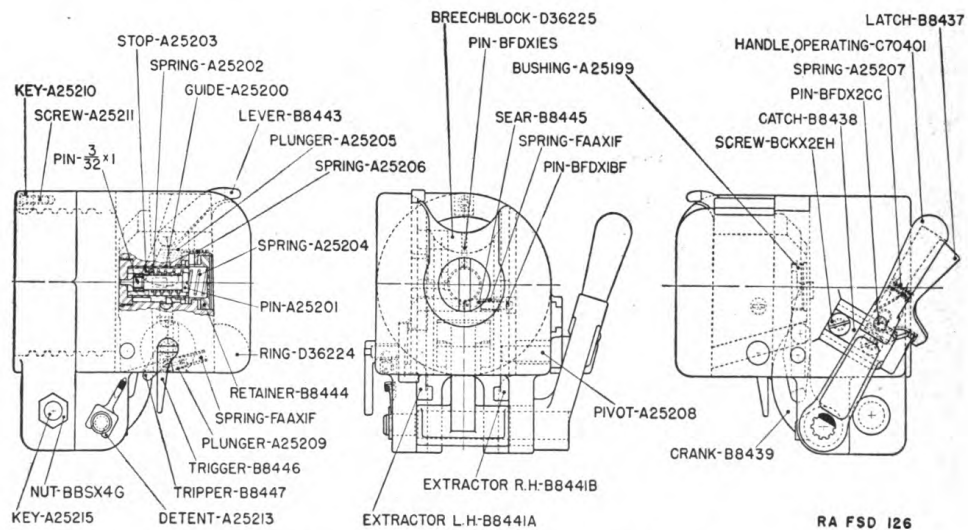

FIGURE 5.—37-mm gun, M3—breech mechanism.
**13. Disassembly or firing mechanism from breechblock.—*a.*** With the chamber empty, close the breech and pull the trigger (B8446, fig. 5). Press the firing spring retainer (B8444) in against the firing spring (A25204) and rotate the firing spring retainer one-quarter turn to remove the pressure. The firing spring will force the firing spring retainer out. The firing spring (A25204) firing pin, and allied parts may then be ejected by throwing the firing pin cocking lever (B8443) forward.
*b. To remove breechblock and operating mechanism.—*(1) Remove the operating handle detent (A25213, fig. 5) by springing its knurled end out of its seat in the outer side of the left hand breech ring lug and rotate the detent in a clockwise direction until the knurled end passes off the surface of the lug. Grasp the knurled end by the fingers and pull out the detent.
(2) Support the breechblock from below with the left hand, with the right hand depress the operating handle latch (B8437, fig. 5), and draw out the operating handle to the right. Raise the breechblock slightly and reach under the breech with the right hand and pull the operating crank (B8439) from between the breech ring lugs. Lower the breechblock about 1 inch, to allow the operating crank trunnions to slip out of their slots in the breechblock, and withdraw the operating crank.
**14. Disassembly of firing mechanism from breech ring.—*a.*** Reach into the breech recess from below, grasp the sear tripper (B8447, fig. 5) with the fingers, and pull it to the right to withdraw it from the trigger hub.
*b.* Insert the tip of the right forefinger upward between the trigger (B8446, fig. 5) and trigger plunger (A25209) and press the trigger plunger rearward to free the lug on the trigger. Holding the trigger plunger depressed, pull the trigger out to the left. The compression spring (FAAX1F) will force out the trigger plunger, which should be caught in the hand. The spring may be removed by means of a piece of wire or the tang of a small file.
b. Remove the safety nut (BBSX4G) from the coupler key (A25215, fig. 5) and push the key (A25215) from its seat in the breech ring lugs and the recoil piston rod.
**17. Assembly of firing mechanism into breechblock.**—*a.* Set the breechblock (D36225, fig. 5) upright, with the T-slot at the bottom. Place the compression spring (sear) (FAAX1F) over the small end of the sear (B8445) and insert the sear and spring in the slotted left end of the transverse hole in the breechblock. Aline the arm of the sear with the slot and press the sear through against the spring until the pinhole through the small end of the shaft is exposed on the right side of the breechlock. Insert the sear retaining pin (BFDX1BF) through this hole, letting the ends project equally on both sides of the sear; then release the pressure on the sear, which will allow the pin to enter the counterbore in the breechblock.
*b.* Insert the cocking lever plunger spring (A25206, fig. 5) into its hole in the rear face of the recess in the left side of the breechblock. Press the cocking lever plunger (A25205) into the hole, flat end against the spring, and insert the firing pin cocking lever (B8443) into the recess, with the short arm downward and apron in front of the plunger.
**18. Assembly of firing mechanism into breech ring.**—*a.* Insert the trigger spring (FAAX1F, fig. 5), then the trigger plunger (A25209), into the hole in the rear face of the trigger notch in the lower left cheek of the breech ring. Press the plunger (A25209) into the hole with the nail of the right forefinger and slide the trigger hub into the hole at the top of the notch until the shoulder of the lever contacts the cheek of the ring; then release the plunger.
*b.* From inside the breech recess, insert the shaft of the tripper (B8447) into the hub of the trigger (B8446, fig. 5) with the short arm of the tripper vertical. Slide the trigger shaft through until the flattened end enters the slot in the trigger hub, and the lever of the tripper bottoms in its recess inside the breech ring.
*c.* To assemble the extractors, slide the extractors (B8441A and B, fig. 5) into their pivots inside the lower front corners of the breech recess, long arms upward and lips projecting toward the chamber.
**19. Assembly of breechblock and operating mechanism to gun.**—*a.* The preferred assembly is to bring the breechblock into the breech recess from below, before assembling the firing pin (A25201) and guide (A25200, fig. 5), firing spring (A25204) and retainer (B8444) into the breechblock.
*b.* Swing the extractor upper arms rearward to the limit of throw. Press the firing pin cocking lever (B8443, fig. 5) forward as far as it will go and insert the top of the breechblock into the bottom of the breech recess. Slide the breechblock upward and hold with the rear end of the T-slot exposed below the breech ring.
*c.* Slide the trunnions of the crank (B8439, fig. 5) into the T-slot from the rear, with the convex curve of the crank to the rear. Push the breechblock upward to approximately closed breech position with the left hand and swing the hub of the crank into position between the lugs on the bottom of the breech ring. Support the breechblock and crank with the left hand and with the right hand enter the shaft of the operating handle through the right hand lug into the hub of the crank. Shift the left hand to the crank hub and with the right hand rotate the handle to approximately 30° forward from vertical position to aline the splines of the handle shaft and crank hub. Adjust the axial alinement of the crank hub as required with the left hand and slide the handle shaft to the left through the hub and left hand lug to assembled position, rotating the handle rearward to clear the catch. Throw the operating handle forward to engage the catch.
*d.* Slide the forked end of the detent (A25213, fig. 5) horizontally into the groove in the left end of the handle shaft, with the knurled side of the tip outward. Spring the tip slightly outward and rotate the detent counterclockwise about the shaft until the hub enters its seat in the lug, completing the assembly.
*a. Assembly of the firing pin and guide.*—(1) Insert the stop into the firing pin guide, pronged end first, and rotate until the prongs enter and protrude through the holes in the end of the guide.
(2) Place the retracing spring on the body of the firing pin and screw the firing pin into the guide through the rear end until the shoulder on the pin contacts the forward end of the guide on the inside. The point of the firing pin and the prongs of the stop will then protrude from the forward end of the guide. If the transverse locking pin holes in pin and guide are not in alinement, screw the firing pin backward, not to exceed one-half turn to aline the holes.
(3) Insert the locking pin through firing pin and guide. This pin should not protrude on either side of the guide.
*b.* Insert the firing pin (A25201, fig. 5) and guide (A25200) into the rear end of the firing pin hole in the breechblock, firing pin point first, and exterior lugs on bottom and left side of the guide in alinement with the grooves in the bore. Pull and hold the trigger (B8446) and push the pin and guide forward until it contacts the breechblock bushing (A25199); then release the trigger.
*c.* Place the firing spring (A25204, fig. 5) inside the guide, about the firing pin. Place the cupped end of the retainer (B8444) over the rear end of the spring, and insert the retainer into the firing pin hole of the breechblock with the arrows in the slot of the head approximately horizontal. With one hand press the retainer head forward against the spring until the top of the head is approximately one-eighth inch below the surface of the block and rotate it until the arrows are in alinement with the arrow on the face of the block; then release the pressure.
*b.* The firing mechanism may or may not be completely assembled into the breechblock prior to this operation. With the breechblock removed from the gun, proceed as in paragraph 20 *a*, *b*, and *c*, pressing the arm of the sear (B8445, fig. 5) into its recess instead of holding the trigger (B8446) to permit pushing the firing pin (A25201) and guide (A25200) forward to the breechblock bushing (A25199).
**22. Disassembly of recoil mechanism.**—Uncouple the gun by removing the safety nut (BBSX4G) and coupler key (A25215, fig. 5). Drain all oil from the recoil cylinder into a clean receptacle. Remove the recoil cylinder front head (B156653, fig. 7). Insert the piston rod removing spacer (A165919) (accessories) on the counterrecoil buffer (A163949) between head (B156653) and piston valve (A163950) and reassemble the recoil cylinder head. This will force the coupler (B153762) sufficiently to the rear to remove pin (BFDX1EU); unscrew the coupler from the piston rod. Attach the piston rod puller to the piston rod. Place a bar through the loop of the piston rod puller and with a man on each end of the bar keep the counter-recoil spring (A163742) under compression and remove the recoil cylinder front head (B156653). Gradually release the counterrecoil spring pressure. With the spring pressure released, unscrew the loop end on the puller and remove the piston and rod and counterrecoil springs from the recoil cylinder. Remove the end of the puller attached to the piston rod.
**32. Removal of gun and sleigh from recoil mechanism.**—Remove safety nut (BBSX4G) from coupler key (A25215, fig. 5). Remove the coupler key. Slide the gun and sleigh to the rear on the slide of the recoil cylinder and remove.
**33. Assembly of gun and sleigh to recoil mechanism.**—Slide the gun and sleigh forward on the slides of the recoil cylinder and secure with coupler key (A25215, fig. 5) inserted through the recoil piston rod and breech ring lugs. Assemble safety nut (BBSX4G) to the coupler key.